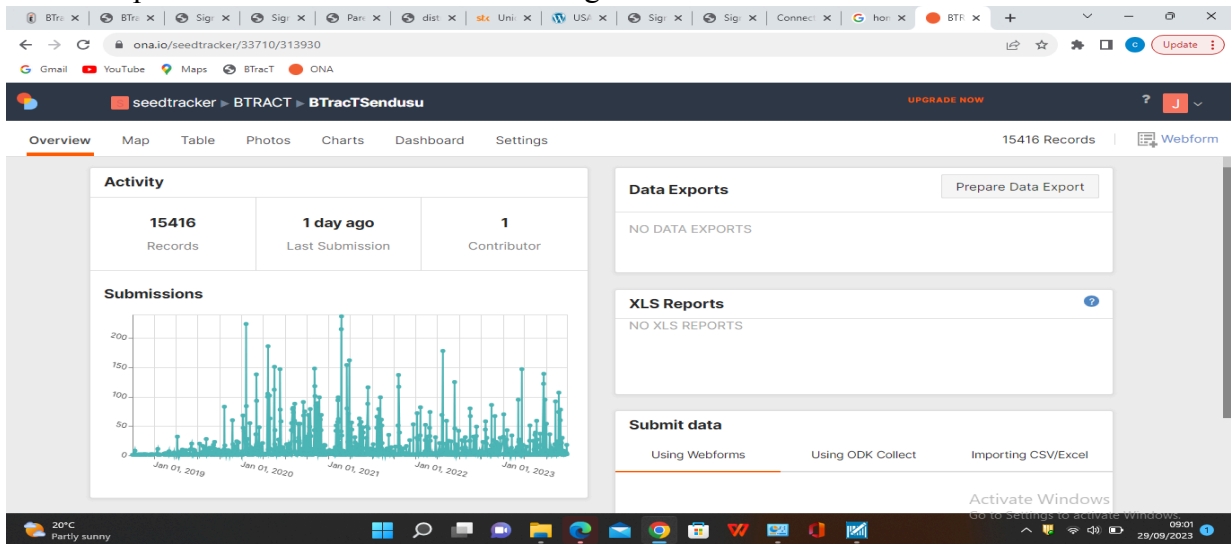

Figure 4: Bract displaying where a webform is located at the right-hand corner.
- Select record information as figure as depicted in figure 4.